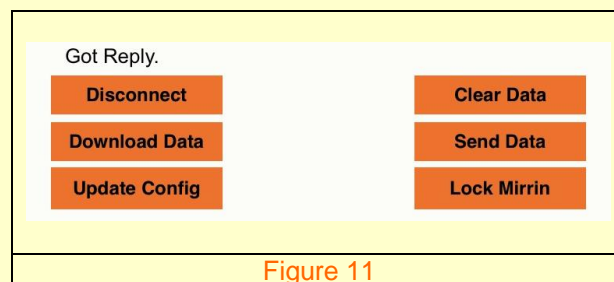

Figure 11
6. Data can be downloaded via the Citrus Lite app as shown in **Figure 11**.